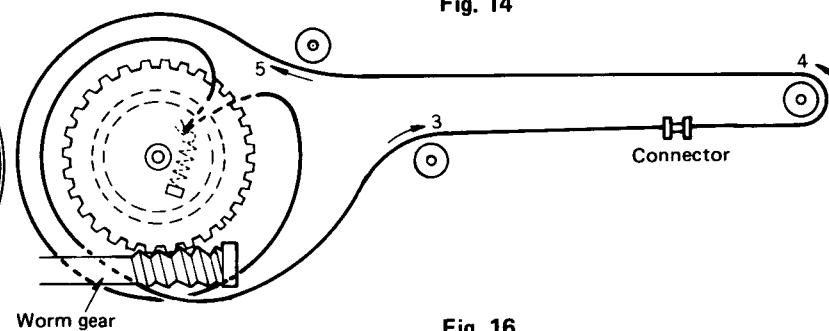

Fig. 16
5. Holding the rope set over the arm drive wheel with the hand, set the rope over the wheels in the order of 3 ~ 5 in Fig. 16.
7. Rotate the worm gear by hand and check that the tonearm operates, and then fit the washer ⑭ and "C" ring ⑬ in place.